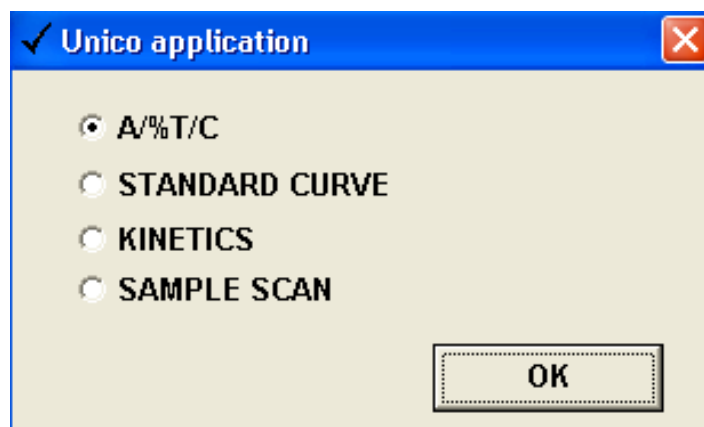

Figure-16 Test Methods
- **Application** button: select the four test methods: **A/%T/Conc, Standard Curve, Kinetics, and Scanning** (Figure-16 Test Methods)